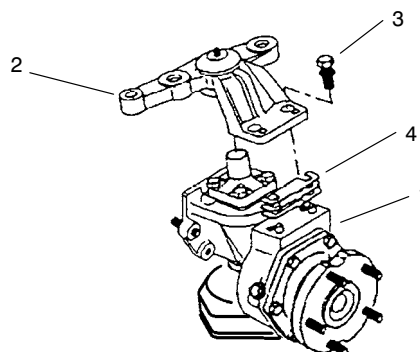

Figure 3
4. Remove the axle case support mounting screws, the axle case support, and the support shims (Fig. 3).